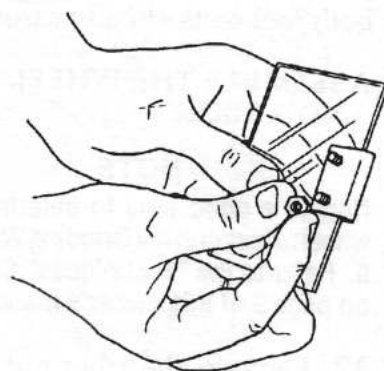

Fig. 4
4. Insert a pan head machine screw (9) through each hole in the hinge. Attach a hex nut (6) to each screw, as in Fig. 4. Finger tighten.